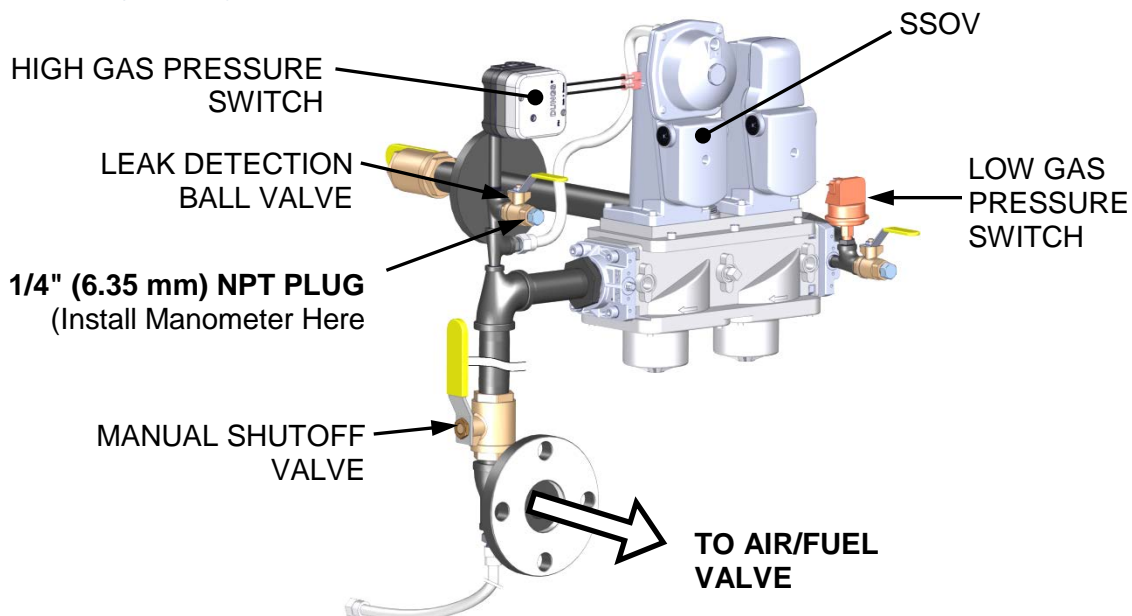

Figure 4-1. 1/4 Inch Gas Plug Location (Gas Train P/N 22282 Shown)
3. Remove the 1/4 inch NPT pipe plug from the leak detection ball valve on the downstream side of the Safety Shut Off Valve (SSOV) as shown in Figure 4-1.